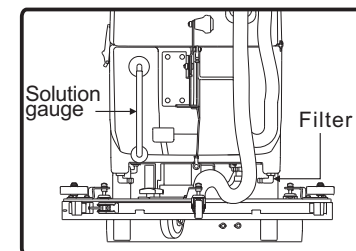

fig. 13 (Back)
- If the machine will not be used for long time or will be stored or in transit under the temperature below 4°C, take out all solution gauge to drain all the solution water in the solution tank, in order to prevent solution from changing state. After this, take out the filter lid, and then press the sprinkling button to drain all the solution stayed in the sprinkling system and clean the filter if necessary. Otherwise, the sprinkling motor, the solenoid valve, or the hoses will be damaged because of frozen water in the sprinkling system (fig. 13&14).